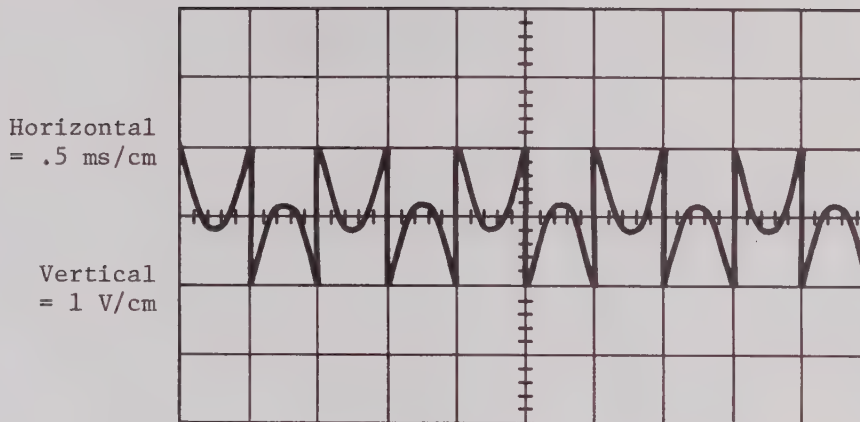

Figure II-2. NOTCH OUTPUT WITH SQUARE WAVE IN
- (5) Connect the oscilloscope to the Notch output and observe that the oscilloscope display is as indicated in Figure II-2.